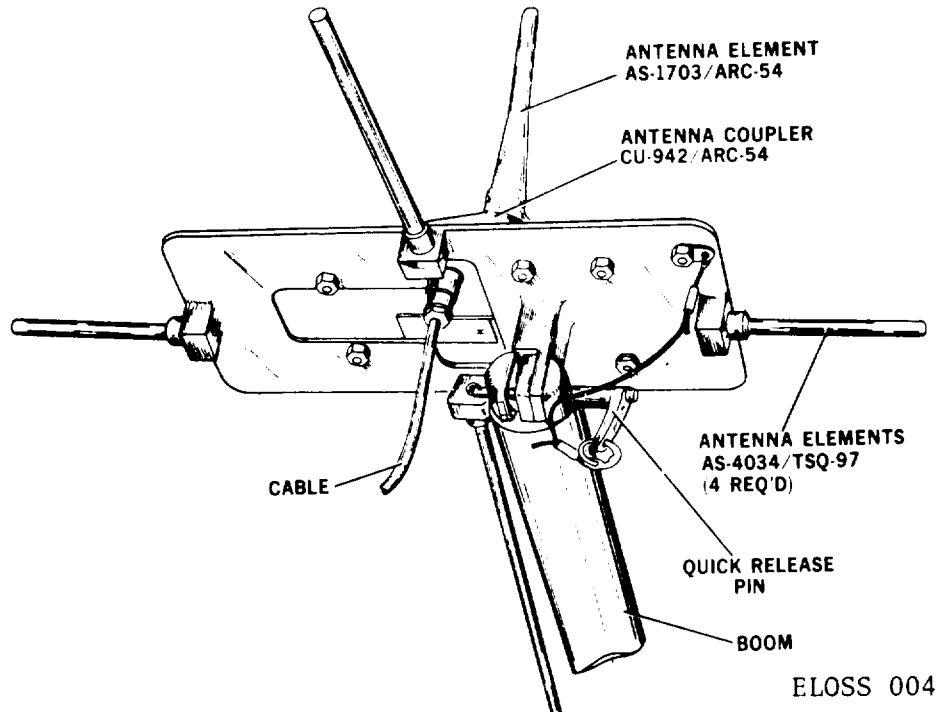

Figure 1-4. AS-1703/ARC-54 with Antenna Coupler Assembly CU-942B/ARC-54, Mounted Configuration.
(1) *Antenna AS-1703/ARC-54 and Antenna Coupler CU-942B/ARC-54.* For very-high frequency (FM) operation, a whip-type Antenna AS-1703/ARC-54 (see figure 1-4) is installed on Antenna Coupler Assembly CU-942B/ARC-54 mounted. Four Antennas AS-4034/TSQ-97 screwed into the assembly mounting plate serve as ground planes. One or two of these combinations can be mounted on one end of the boom, depending on the number of AN/ARC-114A Radio sets used in the particular configuration of the facility. For complete information on the antenna and coupler, refer to the TM 11-244 series of technical manuals.
AT-1108/ARC is mounted on the opposite end of the boom from that shown in figure 1-4. This antenna used for ultra-high frequency and very-high frequency (AM) operation is associated with Radio Set AN/ARC-115(\*) and Receiver Transmitter RT-1167/ARC-164(V). The antenna contains two separate dipoles, one for VHF and one for UHF use. A BNC/TNC adapter is provided for connection of the RT-1167/ARC-164(V) coaxial cable to the antenna. This antenna also utilizes four groundplane elements. One antenna/groundplane assembly accommodates the AN/ARC-115A and the RT-1167/ARC-164(V). A second AT-1108/ARC is supplied for use when the facility configuration requires use of two AN/ARC-115(\*) radios or two RT-1167/ARC-164(V) radios.